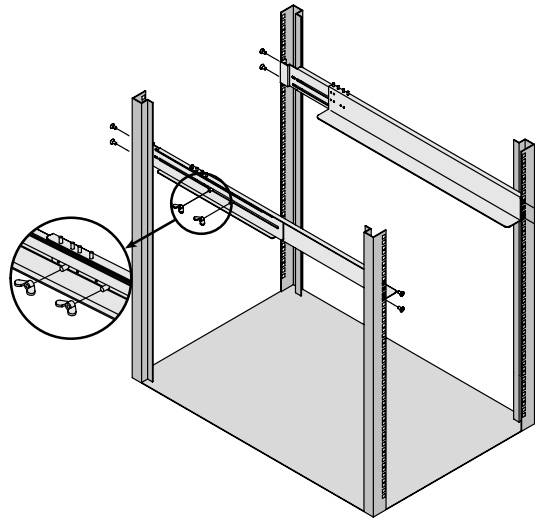

Figure 7. Installing the Rails
6. Loosen the assembly wing nuts on both rail assemblies and adjust the rail size for the depth of your rack (see Figure 7).